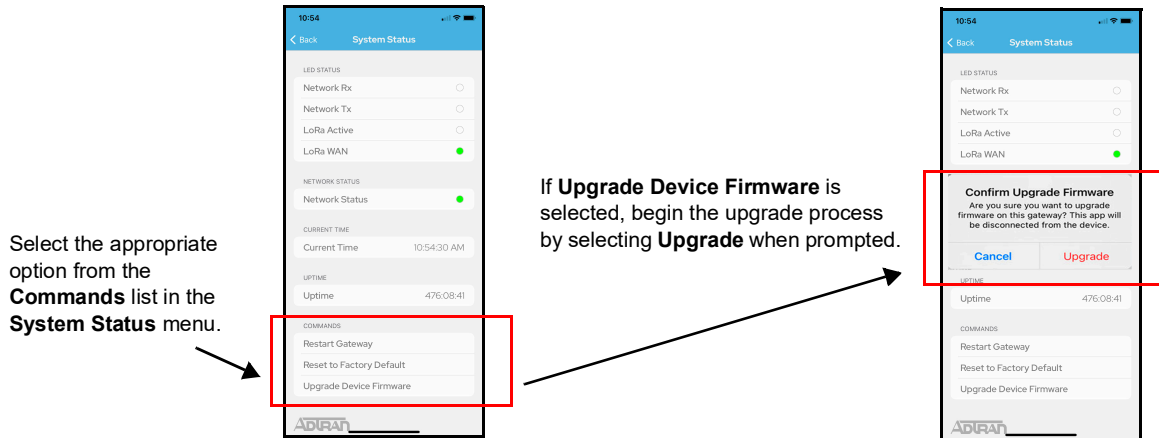

Figure 8. Restarting, Restoring Defaults, and Upgrading the LoRaWAN Gateway
- To restart the LoRaWAN gateway, select the **Restart Gateway** option from the **Commands** list in the **System Status** menu (as shown in Figure 8 on page 6). Once selected, the LoRaWAN gateway will restart.
- To restore the LoRaWAN gateway to the factory default settings, select the **Reset to Factory Default** option from the **Commands** list in the **System Status** menu (as shown in Figure 8 on page 6). Once selected, the LoRaWAN gateway will reboot with the factory default settings applied.
- To upgrade the LoRaWAN gateway firmware, select the **Upgrade Device Firmware** option from the **Commands** list in the **System Status** menu (as shown in Figure 8). Once selected, the LoRaWAN gateway will prompt you to confirm that you want to upgrade the firmware. If the firmware upgrade is confirmed (by selecting **Upgrade** when prompted), the firmware upgrade process will automatically begin. Once the upgrade process has begun, you can close the ADTRAN IoT app session while the firmware upgrade process continues. The firmware upgrade process will take several minutes to take effect, and the gateway may reboot several times during the upgrade process.